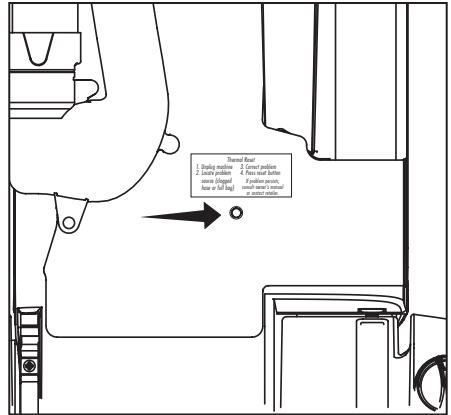

Fig. 1
- Locate the Thermal Motor Protection Reset Button on the back of the vacuum (Fig. 1). Press the button and resume vacuuming.